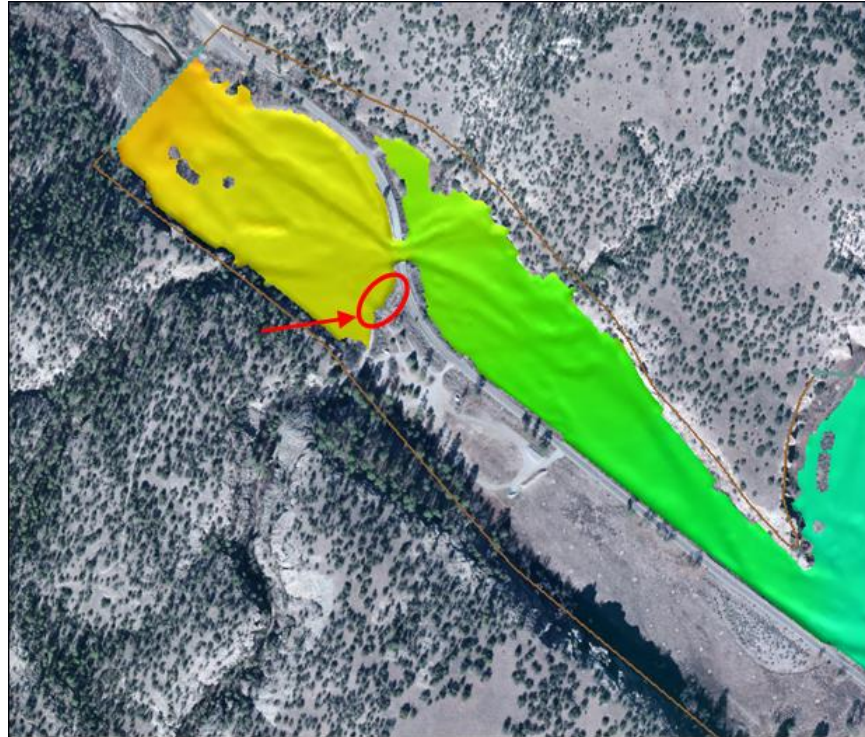

Figure 2 Weir location
The weir structure will be created along a berm near the bridge that is located just upstream of the confluence (see Figure 2). In SMS, weir boundary conditions are defined by creating two arcs that represent the upstream and downstream faces of the weir. SMS also requires that the materials coverage be edited to properly define the weir BC.
1. **Zoom** into the location shown in Figure 2.